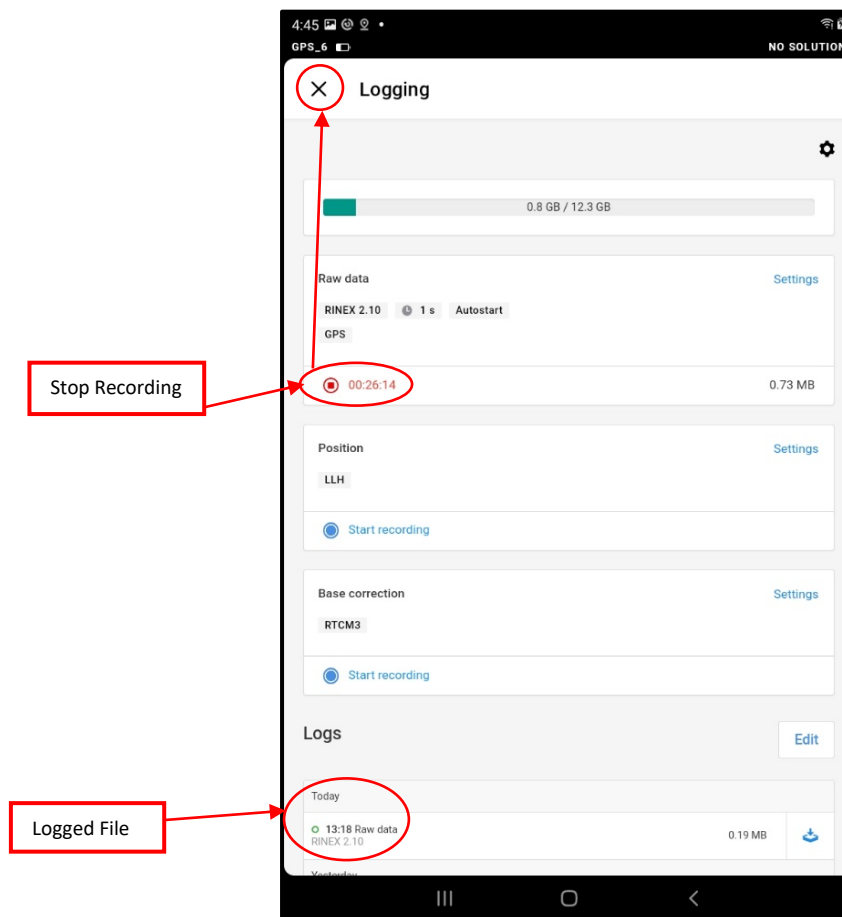

Figure 32. Figure showing Emlid Reach RS2 workflow for confirming data logs with red circles and arrows showing the workflow
- a. Open **ReachView 3** Application and return to the Logging page (Figure 32)